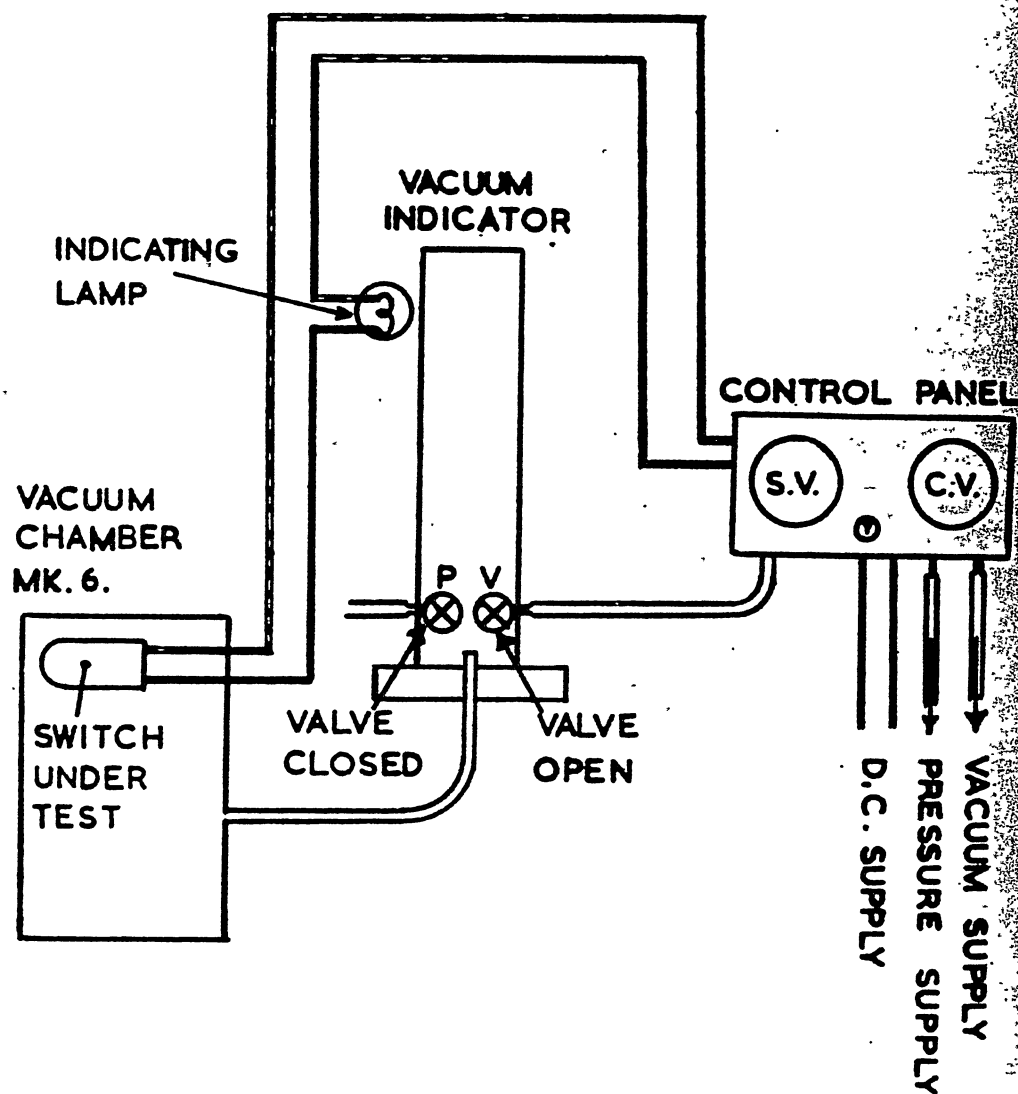

FIG. 2.
- (A) Connect the test equipment as shown in figure 1 if using the bell-jar, or as in figure 2 if the vacuum chamber Mark 6 and control panel are available.
- (B) Place the switch in the test chamber and connect the pins 'B' and 'D' of the plug connection of the switch to the test chamber as shown in figure 1 or figure 2.
- (C) Level the vacuum indicator.
- (D) Align main scale zero of the vacuum indicator with the junction of the two balls.
- (E) Align 1013.2 millibars on the auxiliary scale (ALTIMETER) with the main scale zero.
- (F) Align main scale zero to the prevailing barometric pressure in millibars (Q.F.S.) on the auxiliary scale.